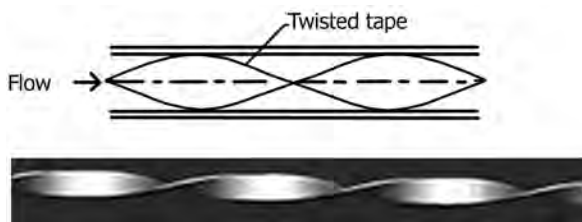

FIGURE 10.33 Twisted tape tube insert.
- Figure 10.33 illustrates twisted tape inserts.